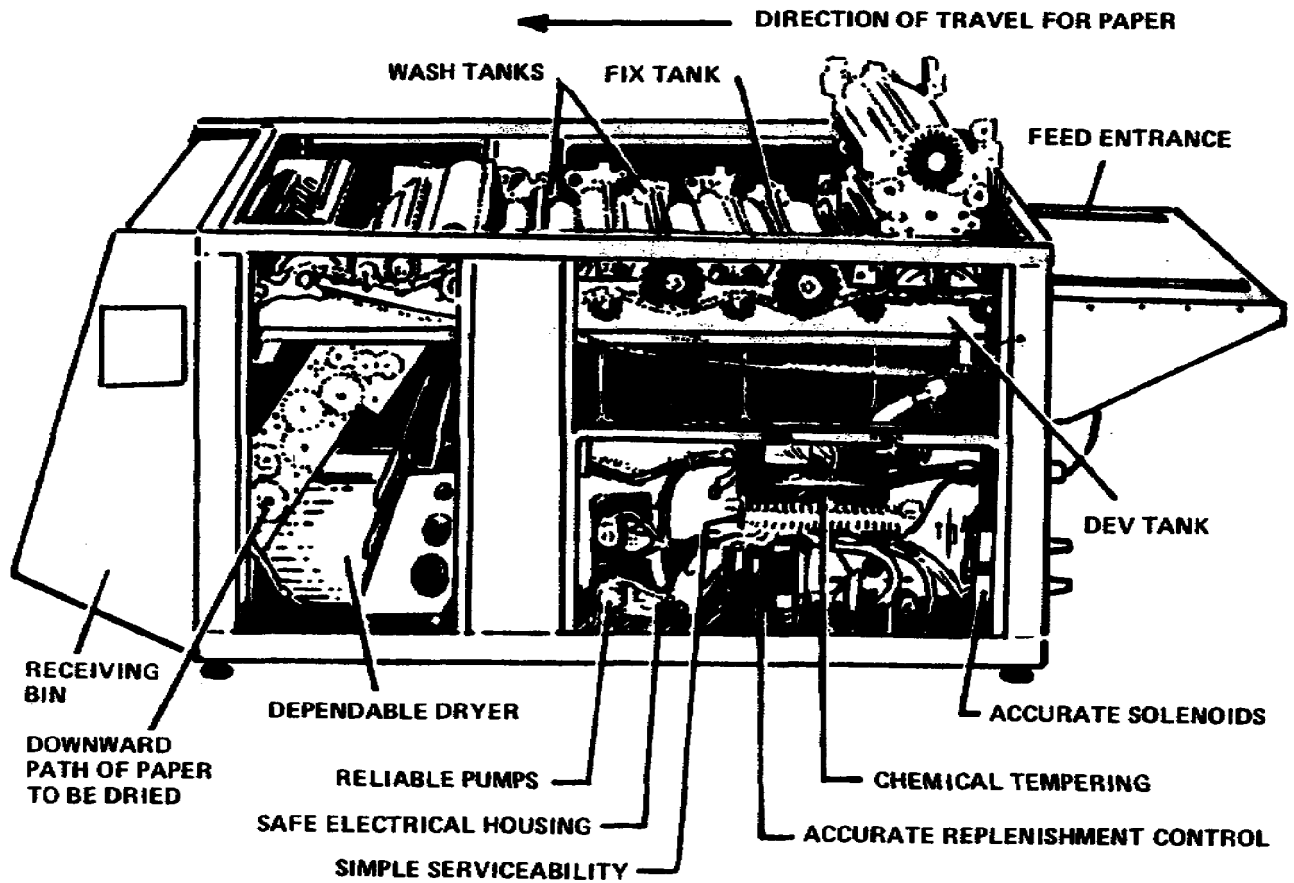
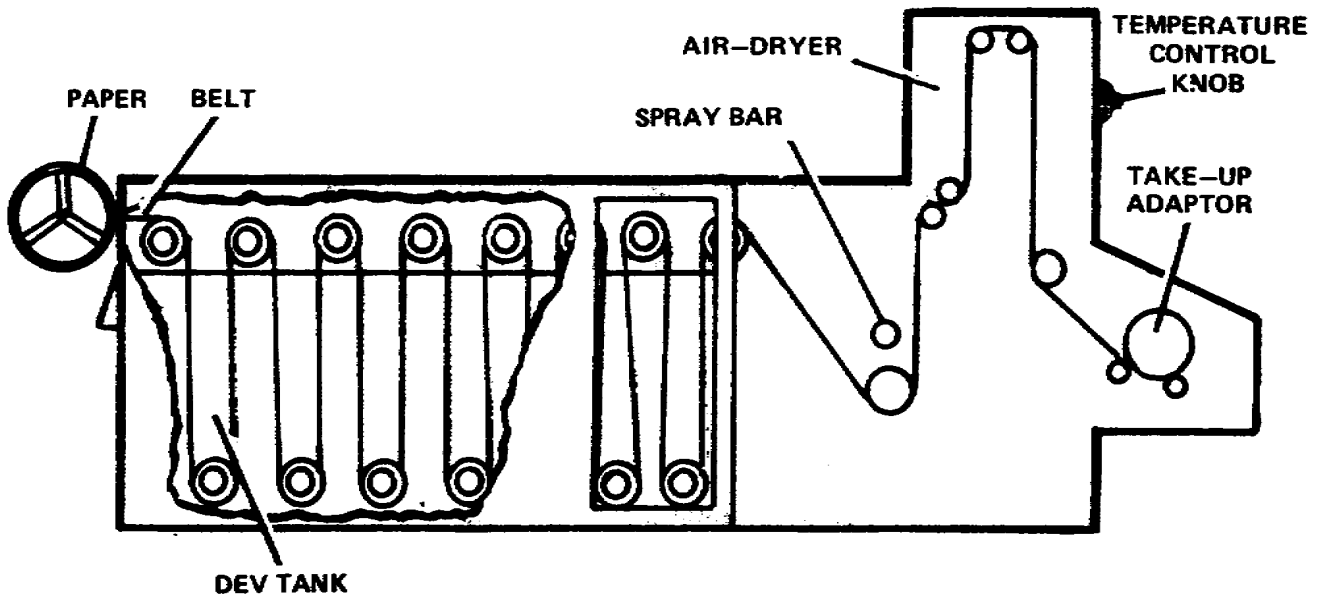

Figure 1-4. Continuous print processor
Figure 1-5. Belt-drive transport system
a. Paper is fed into the feed entrance (fig 1-4) or attached to a clip which is fastened to a belt (fig 1-5).
- d. The dryer section receives the paper and transports it upward between a set of rollers to be air-dried (fig 1-5).